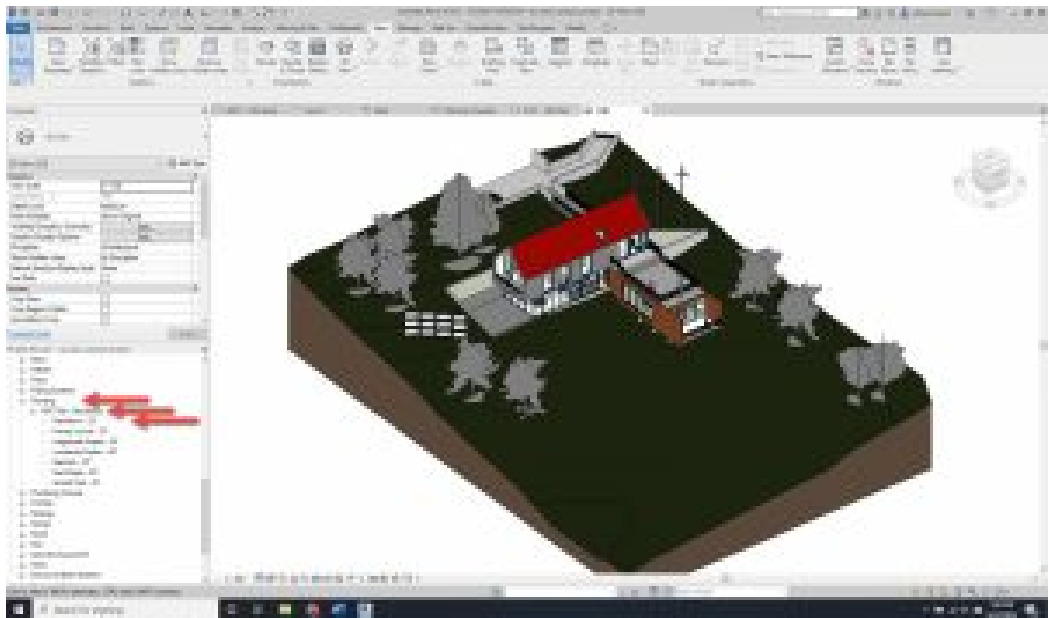

Figure 1.8 Families in the Project Browser
4. Expand RPC Tree-Deciduous as shown in Figure 1.8